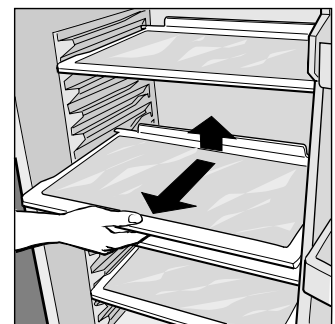

Fig. 2
- The refrigerator is equipped with practical slide-out shelves which can be adjusted for height using the appropriate guides (Fig. 2). This feature allows you to store large containers and food products.